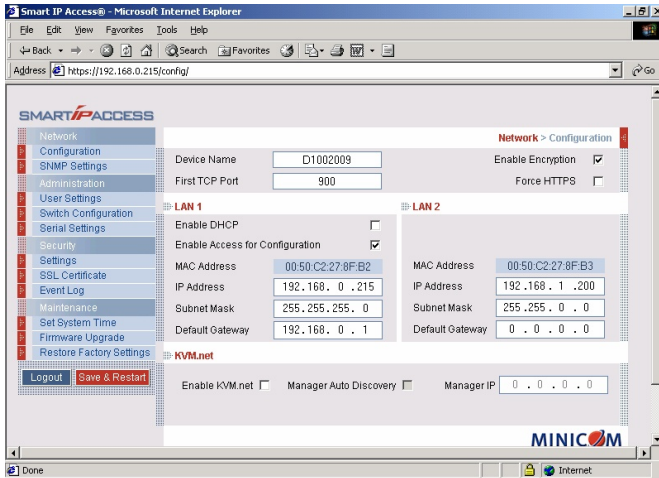

Figure 7 Smart IP Access Web interface
4. Press **Enter**. The Web interface opens at the Network Configuration page. See Figure 7.
Under LAN 1 in Figure 7, is the following: